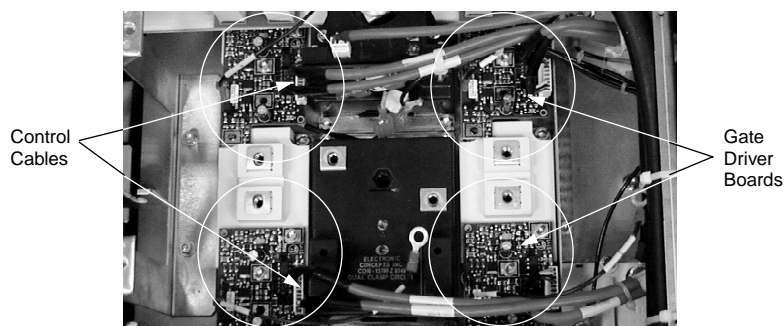

Figure 4.2.12: Inverter Gate Driver Boards
2. Disconnect the control cable plug from the inverter gate driver board (pull on the plug, not the wires). See Figure 4.2.12 on page 4.2.22.